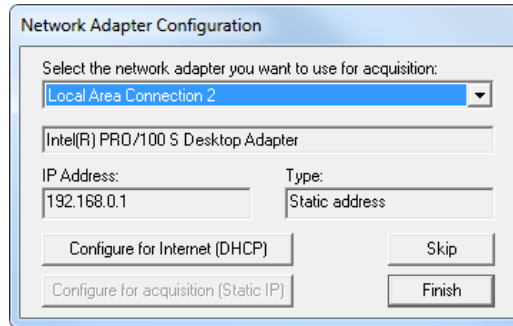

Figure 9-4 Configuring the network adaptor to connect to an acquisition unit
1. On the Windows task bar, in the Navigation Area, right-click the Bootp Server Monitor icon (see Figure 9-4 on page 440).
3. In the **Network Adaptor Configuration** dialog box perform the following tasks (see Figure 9-4 on page 440):